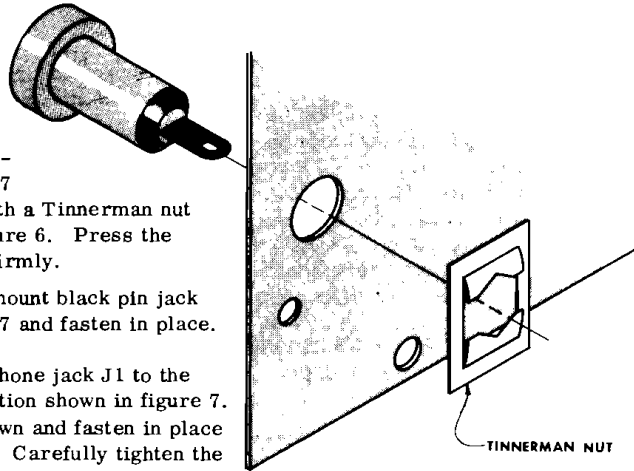
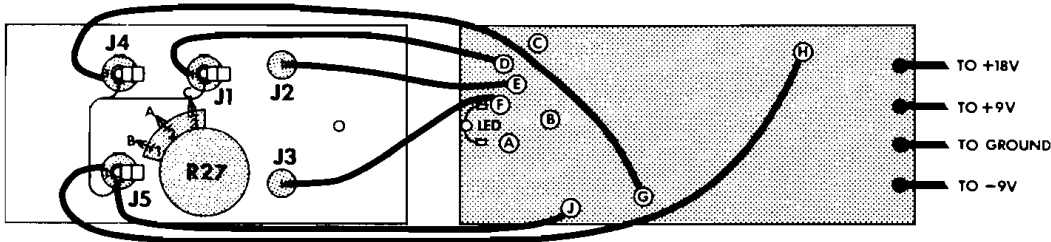

Figure 6
Figure 7
- ( ) Place a black pin jack (J2) in the hole provided as shown in figure 7 and fasten in place with a Tinnerman nut as shown in detail figure 6. Press the Tinnerman nut down firmly.
- ( ) In a similar manner mount black pin jack J3 as shown in figure 7 and fasten in place.
- ( ) Mount the miniature phone jack J1 to the front panel in the position shown in figure 7. Orient the jack as shown and fasten in place with the nut provided. Carefully tighten the nut completely. If the nut is of the knurled type it may be tightened by putting the points of the jaws of a small pair of diagonal cutters into the notches in the nut and using the cutters as a spanner.
- ( ) Mount the 5K ohm potentiometer in the location shown in figure 7. Use the two 3/8 inch nuts provided, one behind the front panel as a spacer and the second on the front side of the panel to secure the potentiometer. Adjust the rear nut so that none of the threaded bushing of the control is exposed when the nut is tightened down. This will allow the control knob which will be mounted in a later step to seat as closely as possible to the front panel. Orient the potentiometer precisely as illustrated.
- ( ) Using the bare wire provided make connections between the ground lugs of phone jacks J1, J4 and J5. These are the bottom lugs of each jack when the panel is oriented as in figure 7. At J4 this wire need only be passed through the hole in the lug, a tight crimp connection is not necessary. Solder the wire at jacks J1 and J4 but **DO NOT SOLDER TO LUG J5 AT THIS TIME.**
- ( ) Route the wire originating at point "C" on the circuit board between pin jacks J2 and J3 and attach it to lug 3 on potentiometer R27 as shown in figure 7. SOLDER THIS CONNECTION.